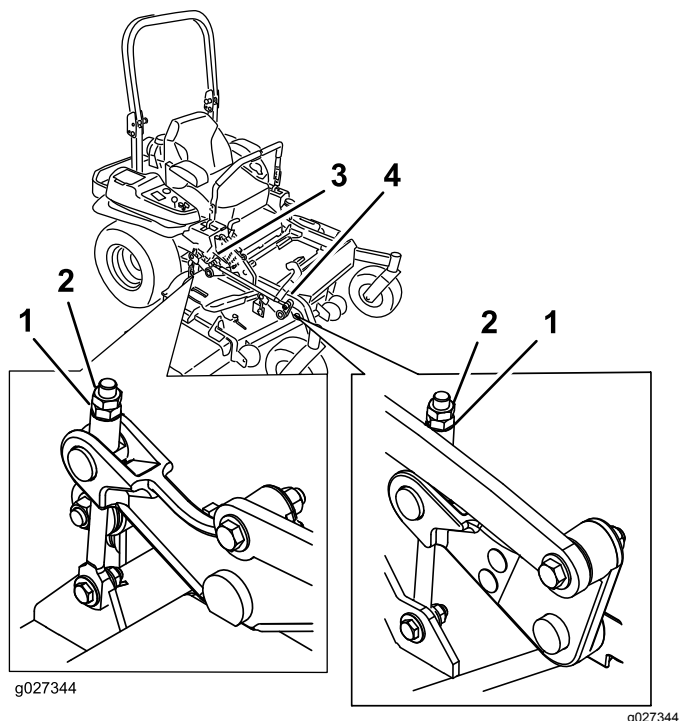

Figure 94
10. If needed, loosen the flanged locknut on the side of the yoke and the jam nut on top. Fine-tune the adjuster screw by turning it to get 7.6 mm (3 inch) height (Figure 94).
17. Fine-tune the adjuster screw by turning it to get 8.3 mm (3-1/4 inches) height (Figure 94).